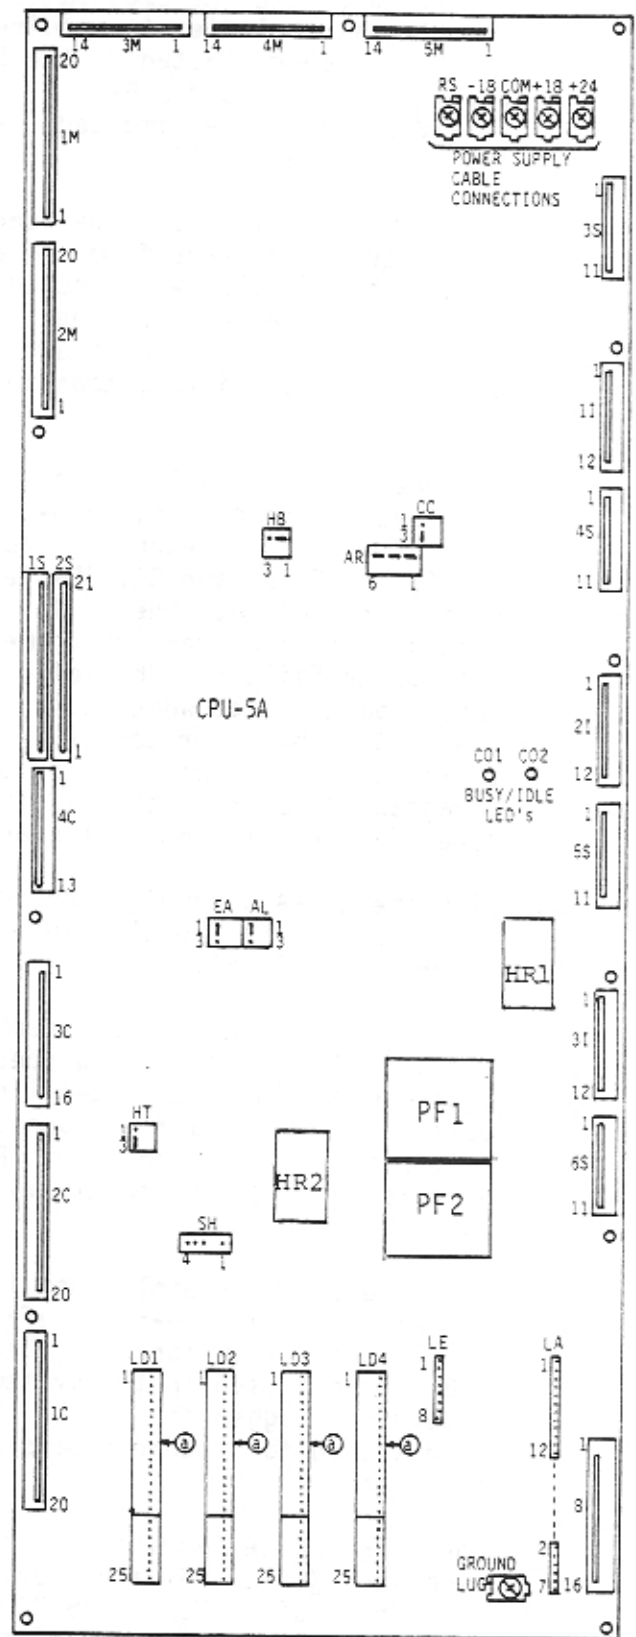
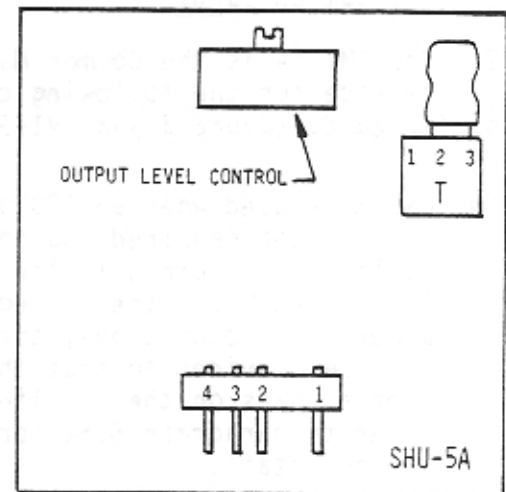

Figure 5 - CPU-5A Abbreviated Card Layout
Figure 6 - SHU-5A Abbreviated Card Layout
ures 4A, 4B and 4C for the LTB- terminal layouts. Figure 5 shows the locations for the LTB's. Proceed as follows:
- f) Plug the LTB-A assembly into the connector on the CPU-5A. Refer to figure 5 for location.
- h) Plug the LTB-E assembly into its connector on the CPU-5A. Refer to figure 5 for location. If the LTB-E is not used in the system, it should be plugged in and the line cord stored for future expansion of the system.
- l) Referring to figure 5, plug the LTB-D's into their respective connectors. Any unused LTB-D's should be plugged into the CPU-5A for use at a future date.
6.23 Seven option connectors are provided on the CPU-5A card to implement the following system options. Refer to figure 5 for connector location.
6.25 The EK-516 system may be used to transmit an alarm signal to every station in the system. When activated by an external alarm system, a high-pitched warbling tone is transmitted to all stations. Strapping of the AL connector on the CPU-5A card permits this alarm signal to be activated by either an open circuit or a closed circuit between the external alarm leads. Refer to figure 5 for AL connector location.
6.31 Strap the AR connector on the CPU (see figure 5) as follows to provide the desired 'time-to-recall' period. Removal of all straps will disable the recall feature.
sic to the external paging system. This strapping is performed on the EA option connector on the CPU-5A card (see figure 5).
6.40 Because of the single audio path in the EK-516 key telephone set, all-call announcements can NOT be received when the telephone is busy on a C.O. line call. However, the KSU may be strapped to transmit tone to telephones busy on C.O. line calls whenever the all-call circuit is used. This tone is normally provided in home installations and is NOT provided in business installations. The HB connector on the CPU-5A (see figure 5) is strapped as follows for all-call alert tone:
6.43 An HT option connector is provided on the CPU-5A card (see figure 5) which programs the system for either the internal or external MOH source, or the
6.49 When an internal MOH music source is required, an SHU-5A card is installed in the SH connector on the CPU-5A card (see figure 5). The SHU-5A provides two different melodies for the music-on-hold. An option connector, "T", is provided on the SHU-5A card (see figure 6) to choose one of the two melodies. Strap either 1-2 or 2-3 to make the selection.